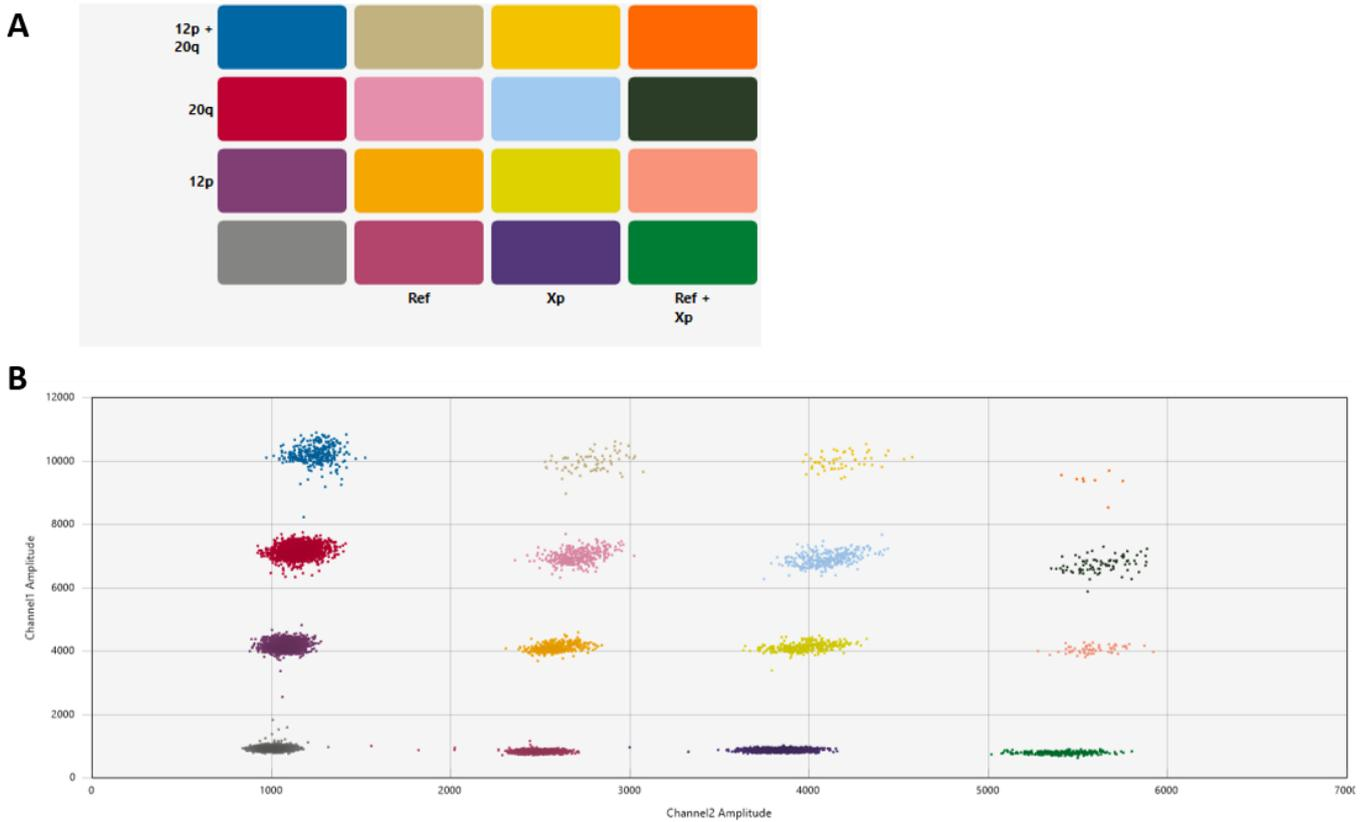

Figure 2. QuantaSoft™ Analysis 2D Amplitude results. A. Example of Mix 1 assay target combination clusters. B. Example of a 2D plot after threshold assignment.
- In the “2D Amplitude” tab (Figure 2), adjust the threshold using the Graph Tools, either manually (Threshold Cluster Mode) or automatically (Threshold Line Mode), to assign each cluster to the appropriate target.